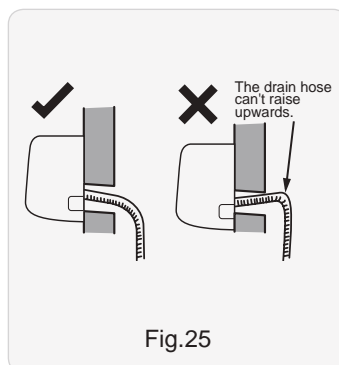

Fig.25
- (1) The through-wall height of drain hose shouldnt be higher than the outlet pipe hole of indoor unit. (As show in Fig.25)